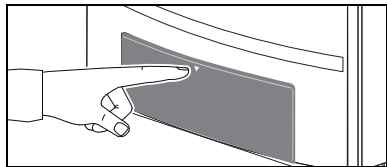

Fig. 2 Opening the control panel
The boiler is equipped with a control unit, the BC10 basic controller (fig. 2). This controller can be used to control the heating system.
- Push on the control panel to open it (fig. 2) and get access to the controller.